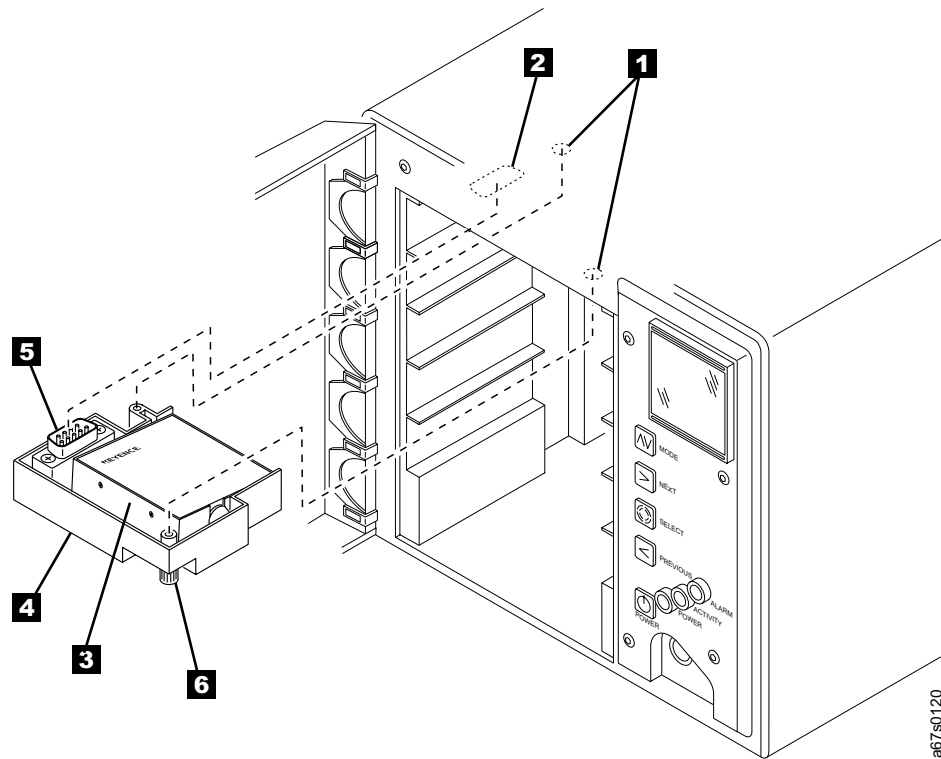

Figure 35. Installing the bar code reader
3. Referring to Figure 35 on page 101, locate the mounting hole **1** and interface connector **2** on the inside top panel of the autoloader, directly above cartridge storage slot 1.